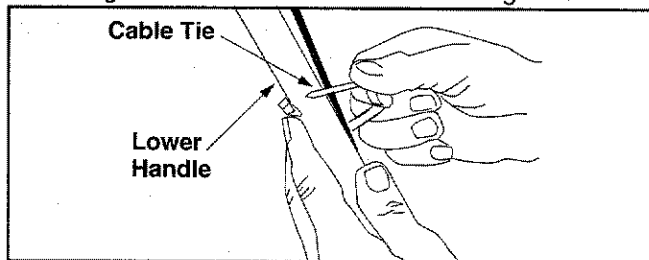

Figure 3
- Fasten the cables to the lower handle with the cable tie found on the lower handle. Pull the cable tie tight and trim off the excess. See Figure 3.